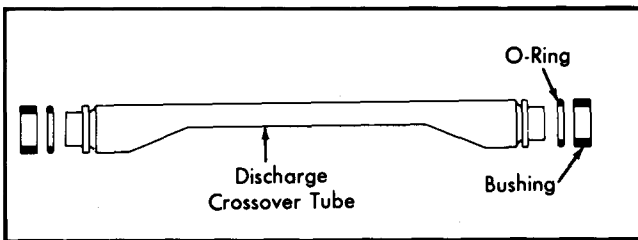
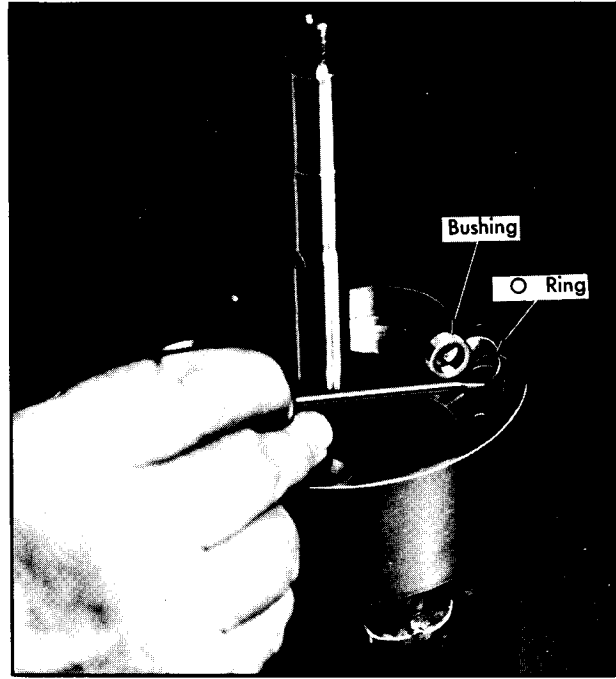

Figure 92—Service Type Discharge Cross-Over Tube
Figure 96—Installing O-Ring on Discharge Cross-Over Tube
5. Without installing any O-rings or bushings, assemble one end of the new Service discharge cross-over tube into the hole in the front cylinder half (figures 92 and 93).
2. Now install new O-ring and bushing on front-end of discharge cross-over tube (figure 96). The O-ring and bushing are Service parts only for internal mechanisms that have been disassembled in the field (See figure 92).
15. Install new O-ring and bushing on rear-end of discharge cross-over tube (See figure 92).